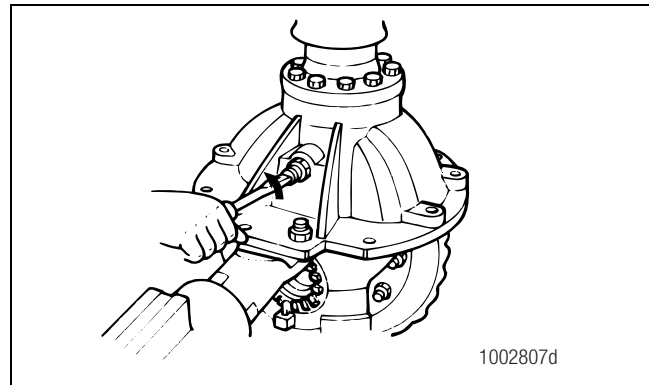
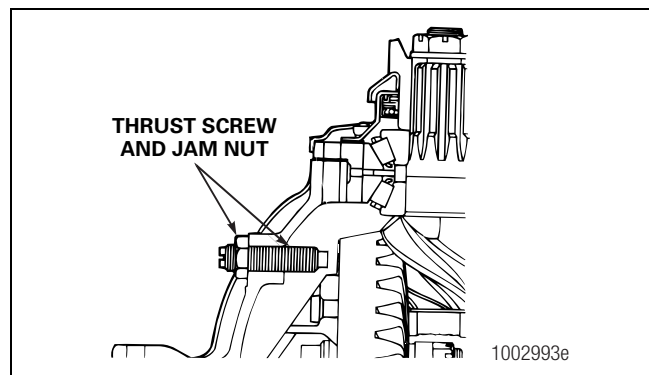

Figure 3.10
Figure 3.11
2. Remove the thrust screw and jam nut, if equipped, from the differential carrier. Figure 3.10 and Figure 3.11.